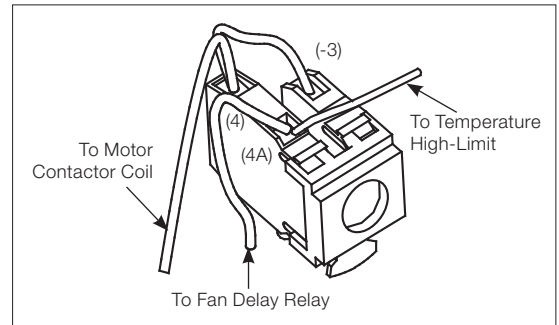
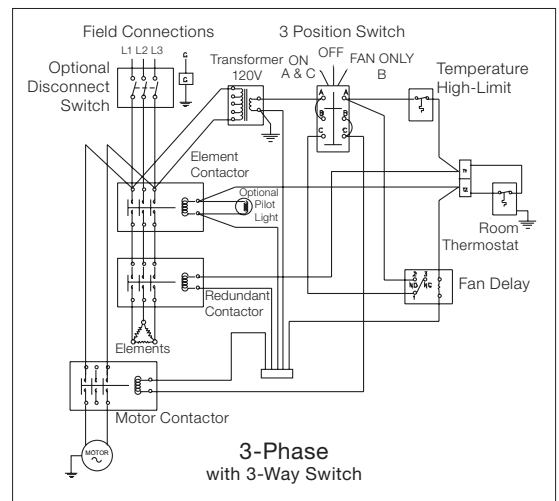

Figure 1
Figure 3
4. Install the wires from the original switch into the new switch. Take care to install the wires in the same locations on the new switch (see figures 1 and 2). Refer to the proper wiring diagram (see figures 3 and 4).